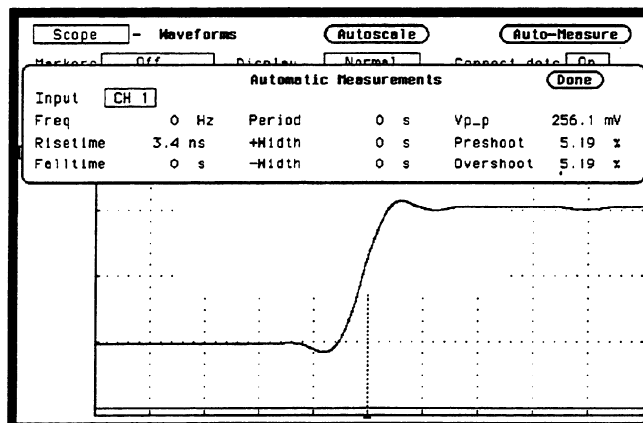

Figure 4-5. Waveforms Display Menu
12. Select Auto-Measure and verify the overshoot and rise time as shown in figure 4-5. Use the SELECT key to toggle the Auto-Measure display between CH 1 and CH 2 to update the information.